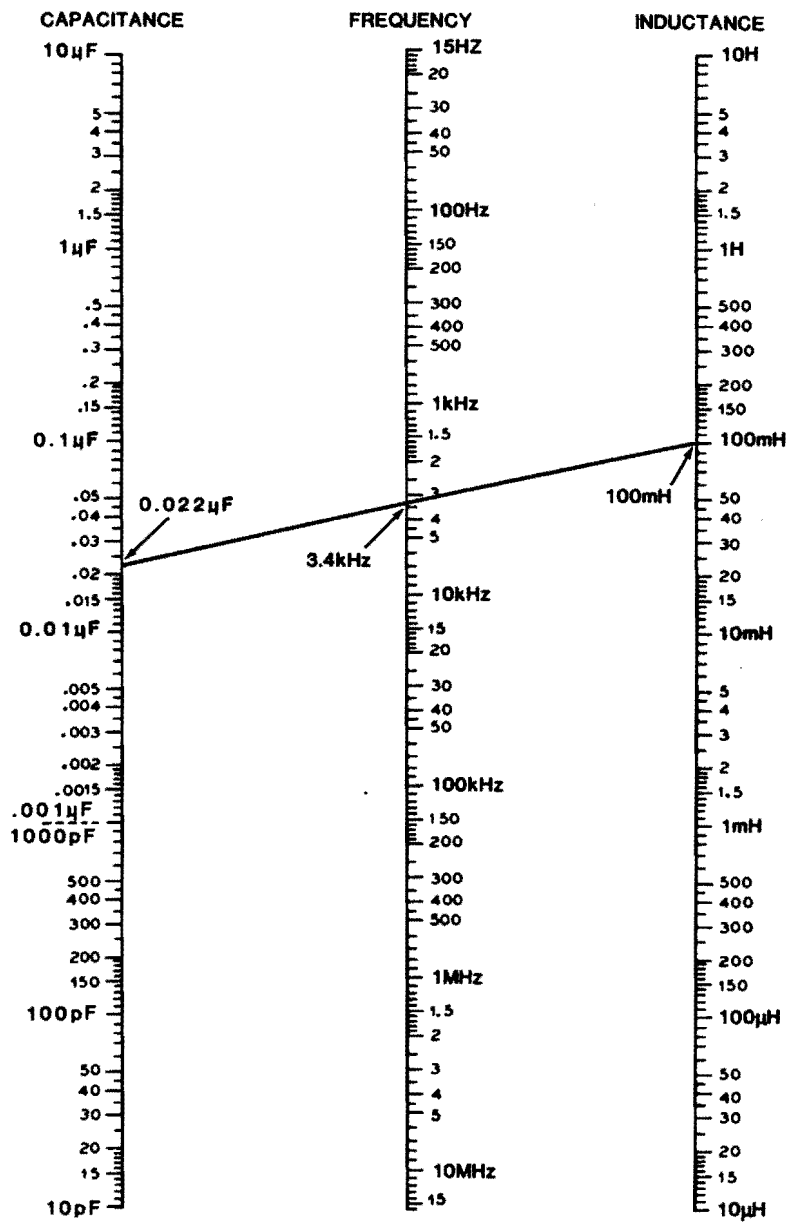

Figure A-1 Resonance Nomograph.
Figure A-1 is a nomograph which can be used for solving resonance problems. The accuracy of this graph is about 5% for most problems. It can be used for solving three types of resonance problems.
1. It can be used to determine the resonant frequency of a series or parallel resonant circuit when the inductance and capacitance values are known. For example, if a 100 mH coil is connected in series with a .022 microfarad capacitor, what is the resonant frequency? A straight line is drawn from 0.022 microfarad capacitor in the left column to 100 mH inductor in the right column. The resonant frequency is read from the center column. Figure A-1 shows a resonant frequency of about 3.4 kHz. The exact value should be 3.383 kHz. So as you can see the graph is fairly accurate.